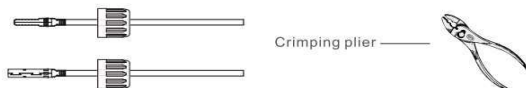

Figure 2.13 Crimping clamp crimping metal terminal
2. Crimp the metal terminal with crimping pliers, as shown in figure 2.13.